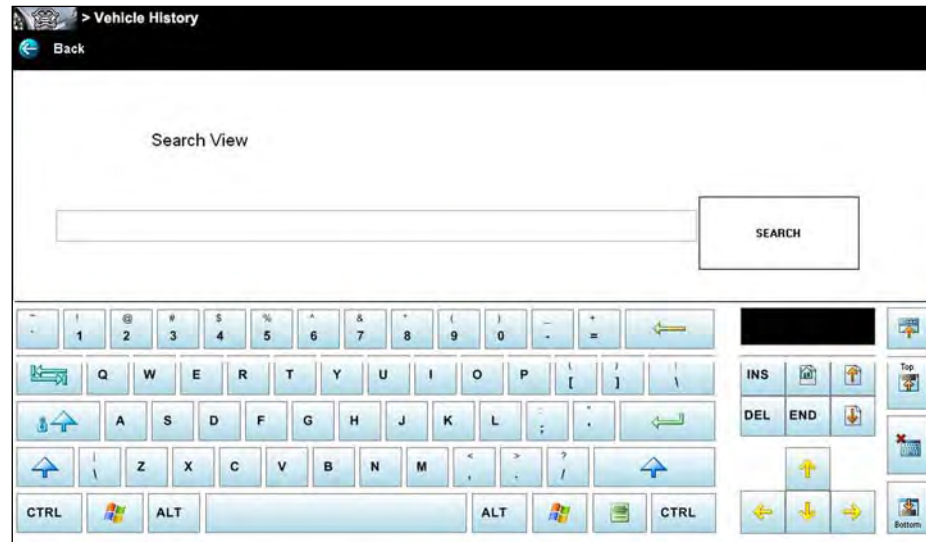

Figure 11-4 Sample Search dialog box
2. Enter the search criteria in the text field (Figure 11-4).